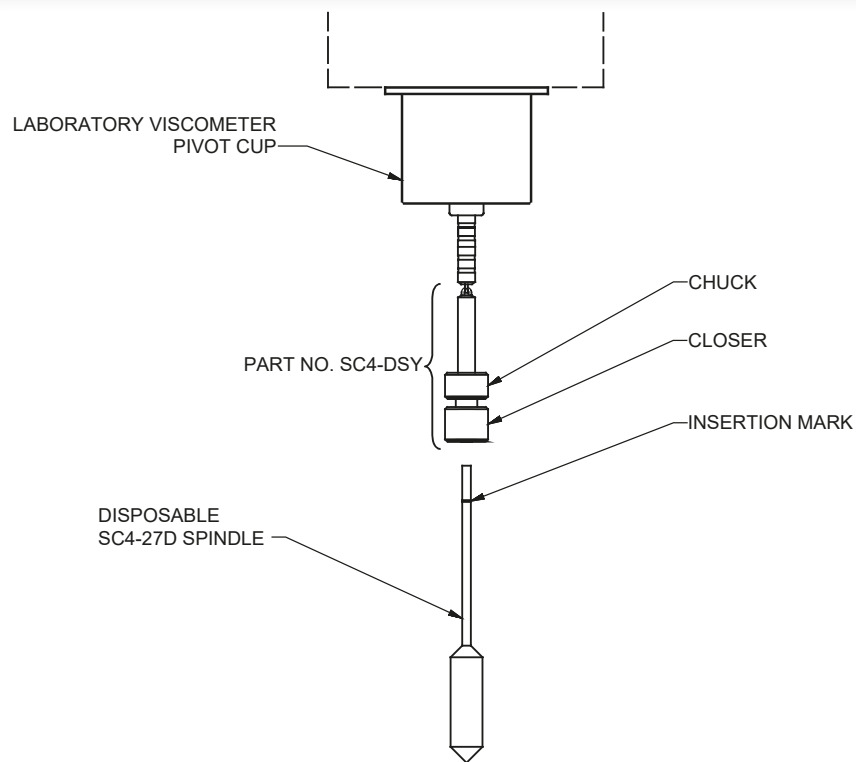

Figure C-2: Standard
DISPOSABLE SPINDLE INSTRUCTIONS (SEE FIGURES C-2 AND C-3)
4. For standard assembly, attach the assembly (spindle and chuck) to the viscometer being careful to hold the coupling nut firmly and lift up slightly while screwing on the assembly (Note: left-handed thread). See Figure C-2.